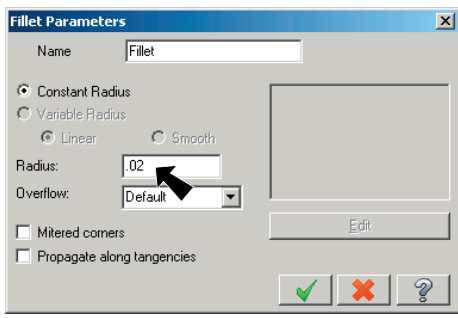
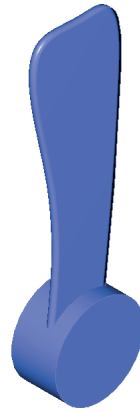

Fig. 18
Fig. 19
- Step 5. Set **Radius to .02** in the Fillet Parameters dialog box and click **OK**, **Fig. 18 and Fig. 19**.